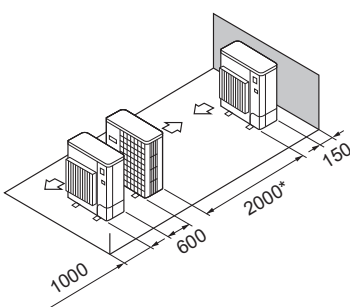

Fig. 2-17
- (5) Enkelt parallel enhed arrangement (Fig. 2-17)